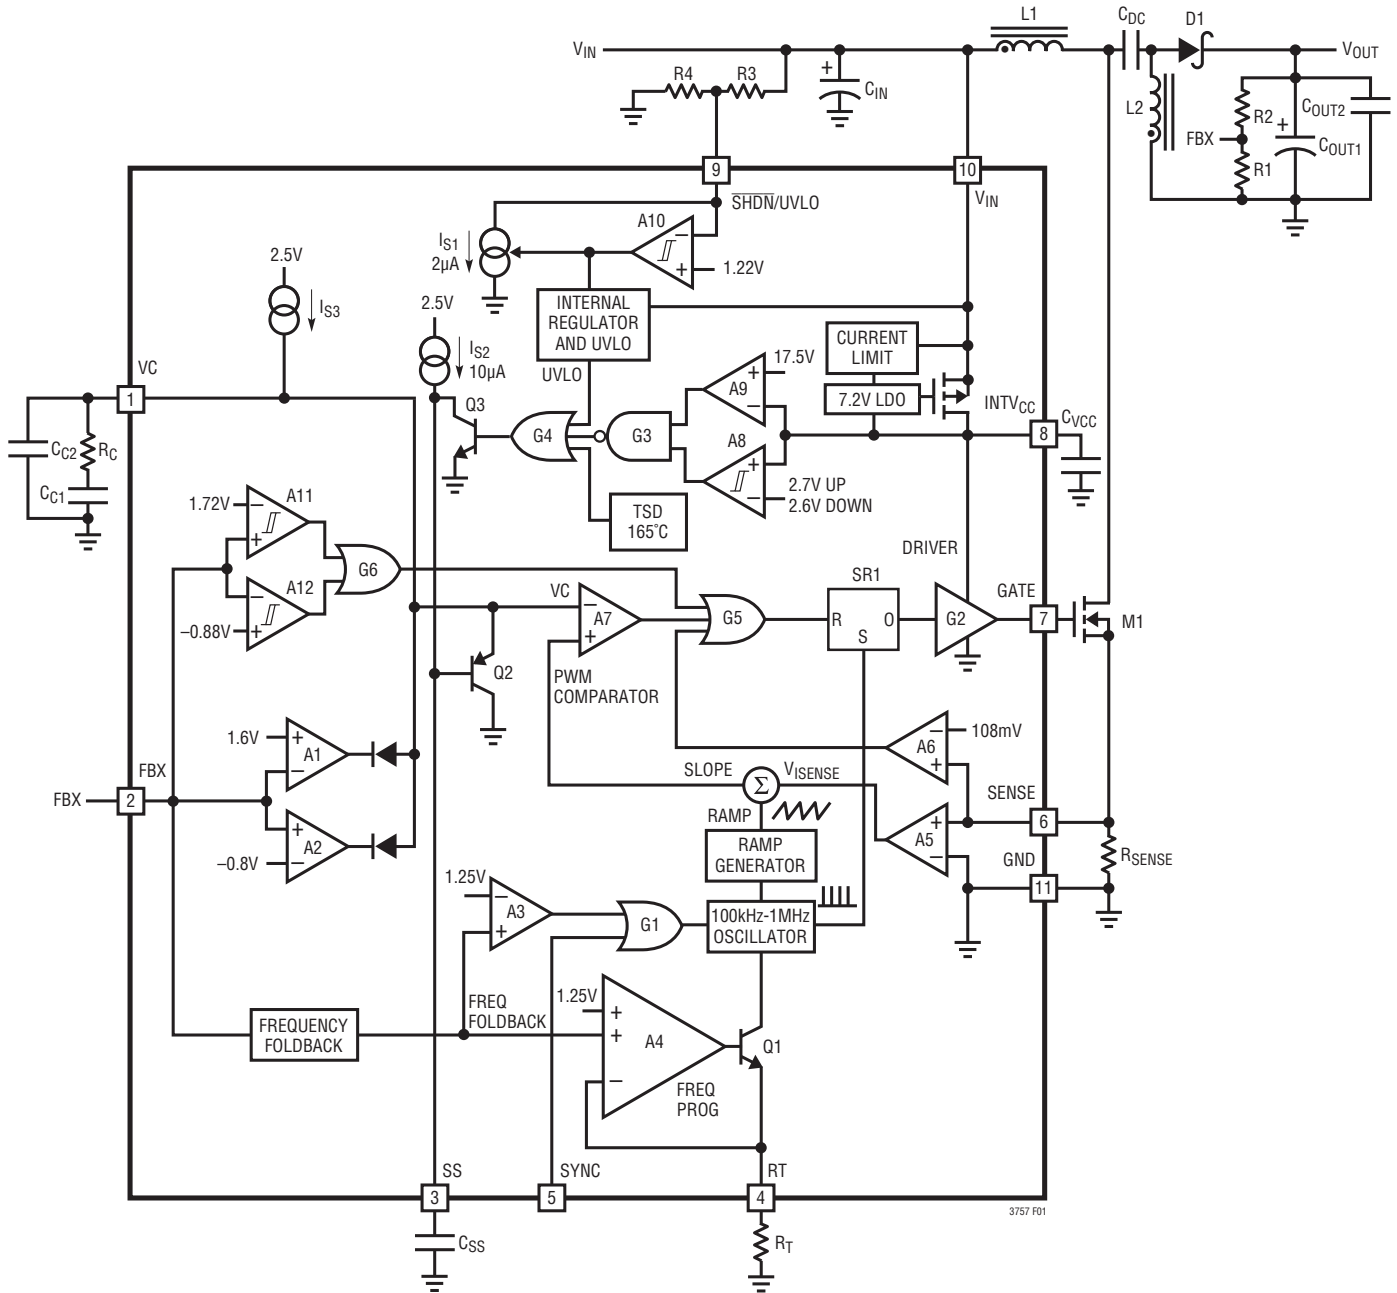

Figure 1. LT3757 Block Diagram Working as a SEPIC Converter
The LT3757 uses a fixed frequency, current mode control scheme to provide excellent line and load regulation. Operation can be best understood by referring to the Block Diagram in Figure 1.
The LT3757 is capable of generating either positive or negative output voltage with a single FBX pin. It can be configured as a boost, flyback or SEPIC converter to generate positive output voltage, or as an inverting converter to generate negative output voltage. When configured as a SEPIC converter, as shown in Figure 1, the FBX pin is pulled up to the internal bias voltage of 1.6V by a voltage divider (R1 and R2) connected from V_{OUT} to GND. Comparator A2 becomes inactive and comparator A1 performs the inverting amplification from FBX to VC. When the LT3757 is in an inverting configuration, the FBX pin
The purpose of this current is to allow the user to program the rising hysteresis. The Block Diagram of the comparator and the external resistors is shown in Figure 1. The typical falling threshold voltage and rising threshold voltage can be calculated by the following equations:
An internal, low dropout (LDO) voltage regulator produces the 7.2V INTV_{CC} supply which powers the gate driver, as shown in Figure 1. If a low input voltage operation is expected (e.g., supplying power from a lithium-ion battery or a 3.3V logic supply), low threshold MOSFETs should be used. The LT3757 contains an undervoltage lockout comparator A8 and an overvoltage lockout comparator A9 for the INTV_{CC} supply. The INTV_{CC} undervoltage (UV) threshold is 2.7V (typical), with 100mV hysteresis, to ensure that the MOSFETs have sufficient gate drive voltage before turning on. The logic circuitry within the LT3757 is also powered from the internal INTV_{CC} supply.
The choice of operating frequency may be determined by on-chip power dissipation, otherwise it is a trade-off between efficiency and component size. Low frequency operation improves efficiency by reducing gate drive current and MOSFET and diode switching losses. However, lower frequency operation requires a physically larger inductor. Switching frequency also has implications for loop compensation. The LT3757 uses a constant-frequency architecture that can be programmed over a 100kHz to 1000kHz range with a single external resistor from the R_T pin to ground, as shown in Figure 1. The R_T pin must have an external resistor to GND for proper operation of the LT3757. A table for selecting the value of R_T for a given operating frequency is shown in Table 1.
The output voltage (V_{OUT}) is set by a resistor divider, as shown in Figure 1. The positive and negative V_{OUT} are set by the following equations:
The LT3757 addresses this mechanism with the SS pin. As shown in Figure 1, the SS pin reduces the power MOSFET current by pulling down the VC pin through Q2. In this way the SS allows the output capacitor to charge gradually toward its final value while limiting the start-up peak currents. The typical start-up waveforms are shown in the Typical Performance Characteristics section. The inductor current I_L slewing rate is limited by the soft-start function.
component values and the operating conditions (including the input voltage, load current, etc.). To compensate the feedback loop of the LT3757, a series resistor-capacitor network is usually connected from the VC pin to GND. Figure 1 shows the typical VC compensation network. For most applications, the capacitor should be in the range of 470pF to 22nF, and the resistor should be in the range of 5k to 50k. A small capacitor is often connected in parallel with the RC compensation network to attenuate the V_C voltage ripple induced from the output voltage ripple through the internal error amplifier. The parallel capacitor usually ranges in value from 10pF to 100pF. A practical approach to design the compensation network is to start with one of the circuits in this data sheet that is similar to your application, and tune the compensation network to optimize the performance. Stability should then be checked across all operating conditions, including load current, input voltage and temperature.